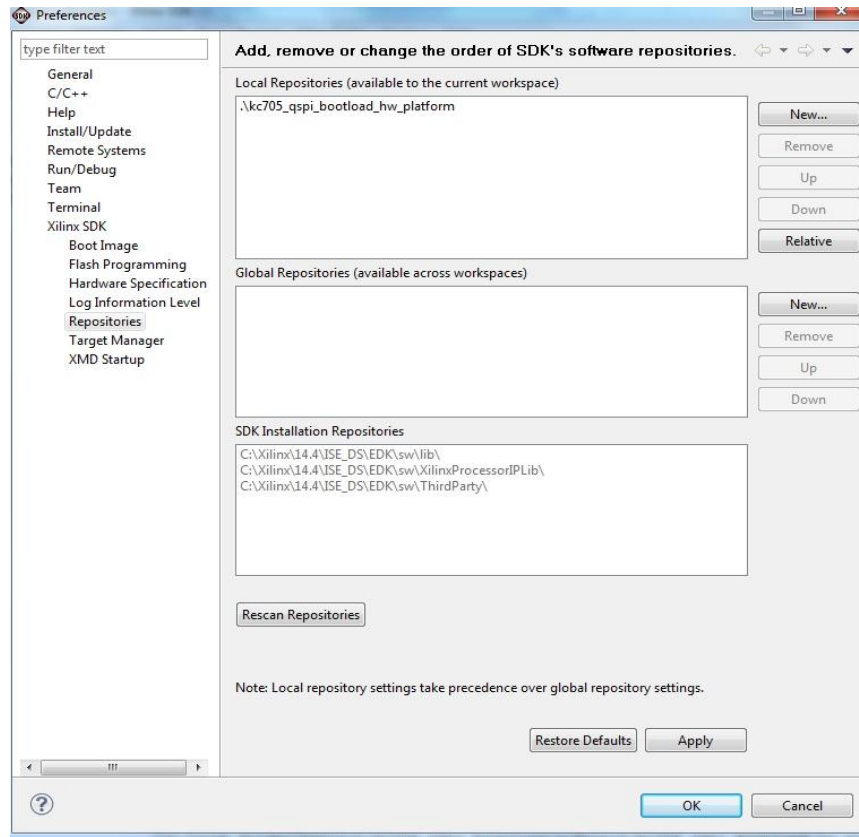

Figure 1
2. Point SDK to the included repository that contains the custom driver(Figure 1):